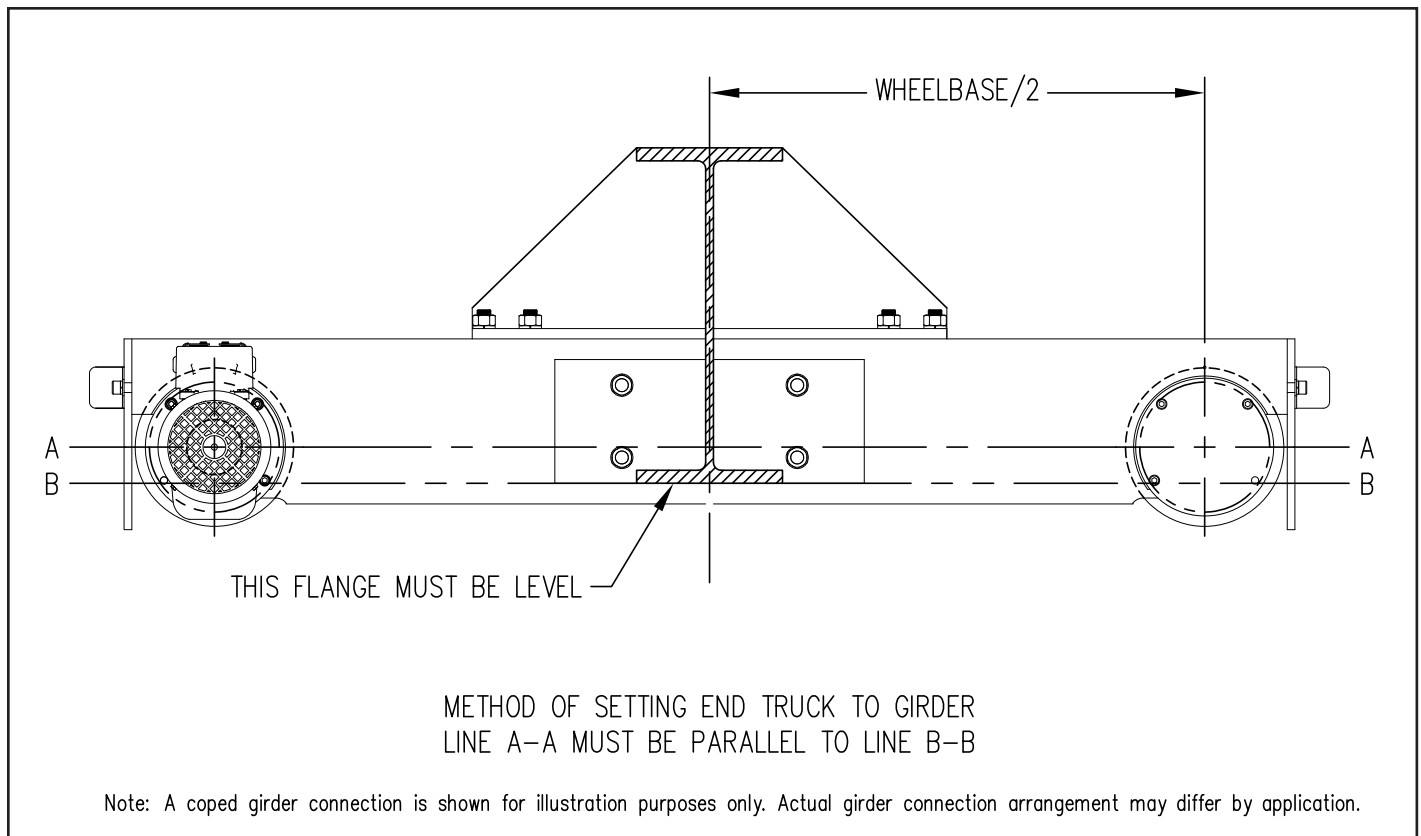

Figure 3.
1. Refer to figure 5 & 5A, Bridge Bolted Plate End Connection. Make the notch to the dimensions shown with a 1/2" radius at the intersection of the cuts with a cutting torch or plasma burner and smooth the burned area by grinding. Support beam about two feet from each end on a pair of horses, or other suitable support (adjustable, with clamping ability is preferred). Place beam on supports so that camber side is at top. In case of beams with capping channels the channel side is up. When setting up the beam on supports, make certain that **the bottom flange is level**, as shown in figure 3.
2. Locate end trucks in the notch of the girder, one at each end of the girder. Make certain trucks are level with each other and are level with the bottom flange of the beam as shown in Figure 3. The girder web is centered on the truck wheelbase.
5. After assuring that the trucks are accurately positioned and squared, complete girder connections as shown in figure 3.